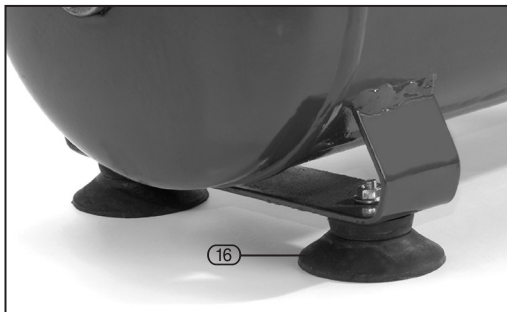

FIG. 1
6.1 FITTING THE RUBBER FEET - FIG. 1